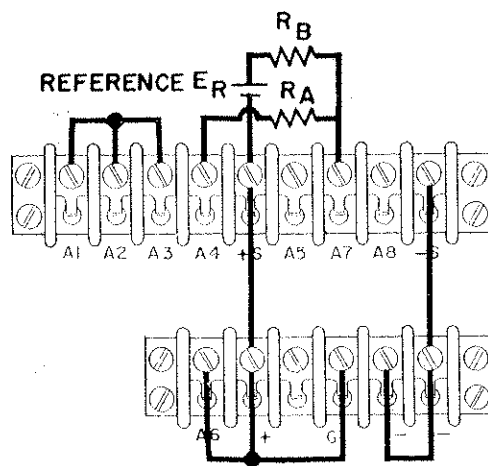

FIG. 3-6C (VOLTAGE & RESISTANCE PROGRAMMING) REMOTE PROGRAMMING CONSTANT CURRENT
- (2) The maximum load on the reference voltage is approximately 10 microamperes.
- (3) The impedance looking into the external programming voltage should be approximately 1000 ohms.
- c. Voltage Resistance Programming (See Figure 3-6C)
- (1) Stable, low noise, low temperature coefficient (less than 30 ppm per degree Centigrade) programming resistors should be used.
- (2)  $R_A$  and  $R_B$  should be selected so that the impedance looking into their junction is a maximum of 1000 ohms.
- (3) The output current will vary linearly as a function of  $V_{REF}$ ,  $R_A$ , and  $R_B$ . The equation for the output current is given by the following: